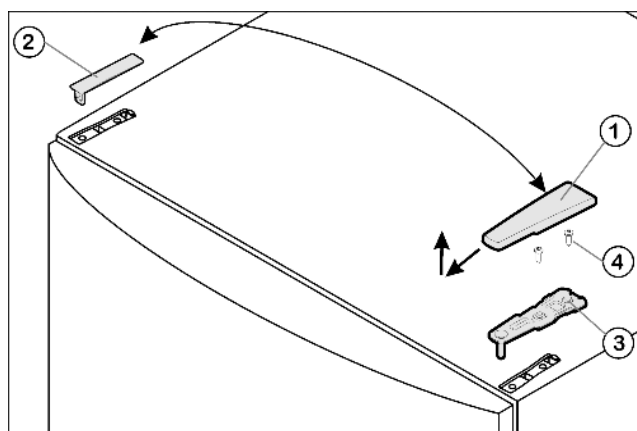

Fig. 4
- ▶ Pull off the cover Fig. 4 (1) forwards and upwards.
- ▶ Lift off the cover Fig. 4 (2).
- ▶ Unscrew the upper turn hinge Fig. 4 (3)(2x Torx® 25) Fig. 4 (4) and lift it off.
- ▶ Insert the upper turn hinge Fig. 4 (3) in the door on the new hinge side.
- ▶ Screw the upper turn hinge firmly into place (with 4 Nm) (2x Torx® 25) Fig. 4 (4). Possibly make preliminary holes with a bradawl or use a cordless screwdriver.
- ▶ Apply the cover Fig. 4 (1) and cover Fig. 4 (2) to the opposite side from the outside and snap them into place.